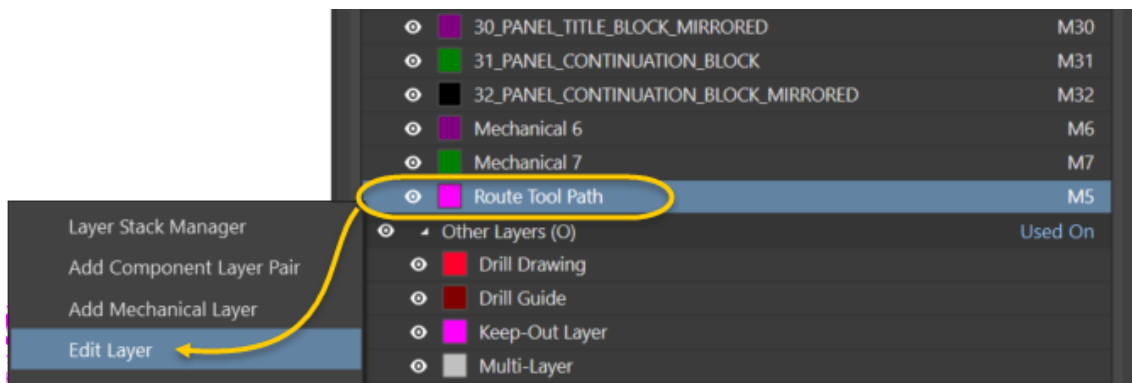

Figure 6. Edit Route Tool Path layer
21. In the *Mechanical Layers (M)* section, right-click on the *Route Tool Path* layer name and select **Edit Layer** as shown in Figure 6.